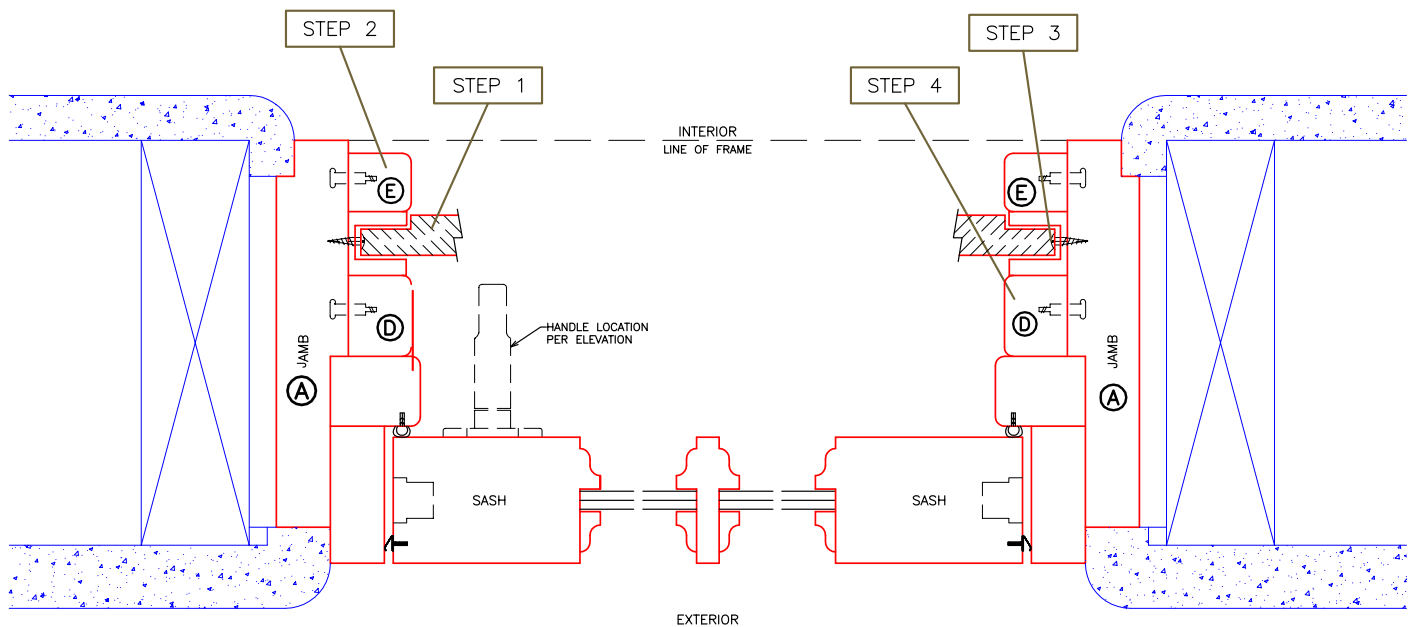

Figure 1 - Horizontal Cross Section
2 – (Figure 1) Carefully pry jamb liner E from the jamb (A) using a flat bar. Jamb liner E is held in place with spring loaded ball catches. Light pressure should lift part E from the jamb (A). Care should be used not to damage part E or the jamb (A). There should be no screws or caulking restraining part E. If either has been added, they will need to be removed prior to prying part E from the jamb (A). Once the ball catches are released part E can be removed from the bottom working up. Repeat on the opposite side.
4 – Carefully pry jamb liner D (figure 1) from the jamb using a flat bar. Jamb liner D is held in place with spring loaded ball catches. Light pressure should lift part D from the jamb. Care should be used not to damage part D or the jamb. There should be no screws or caulking restraining part D. If either has been added, they will need to be removed prior to prying part D from the jamb. Once the ball catches are released part D can be removed from the bottom working up. Repeat on the opposite side.